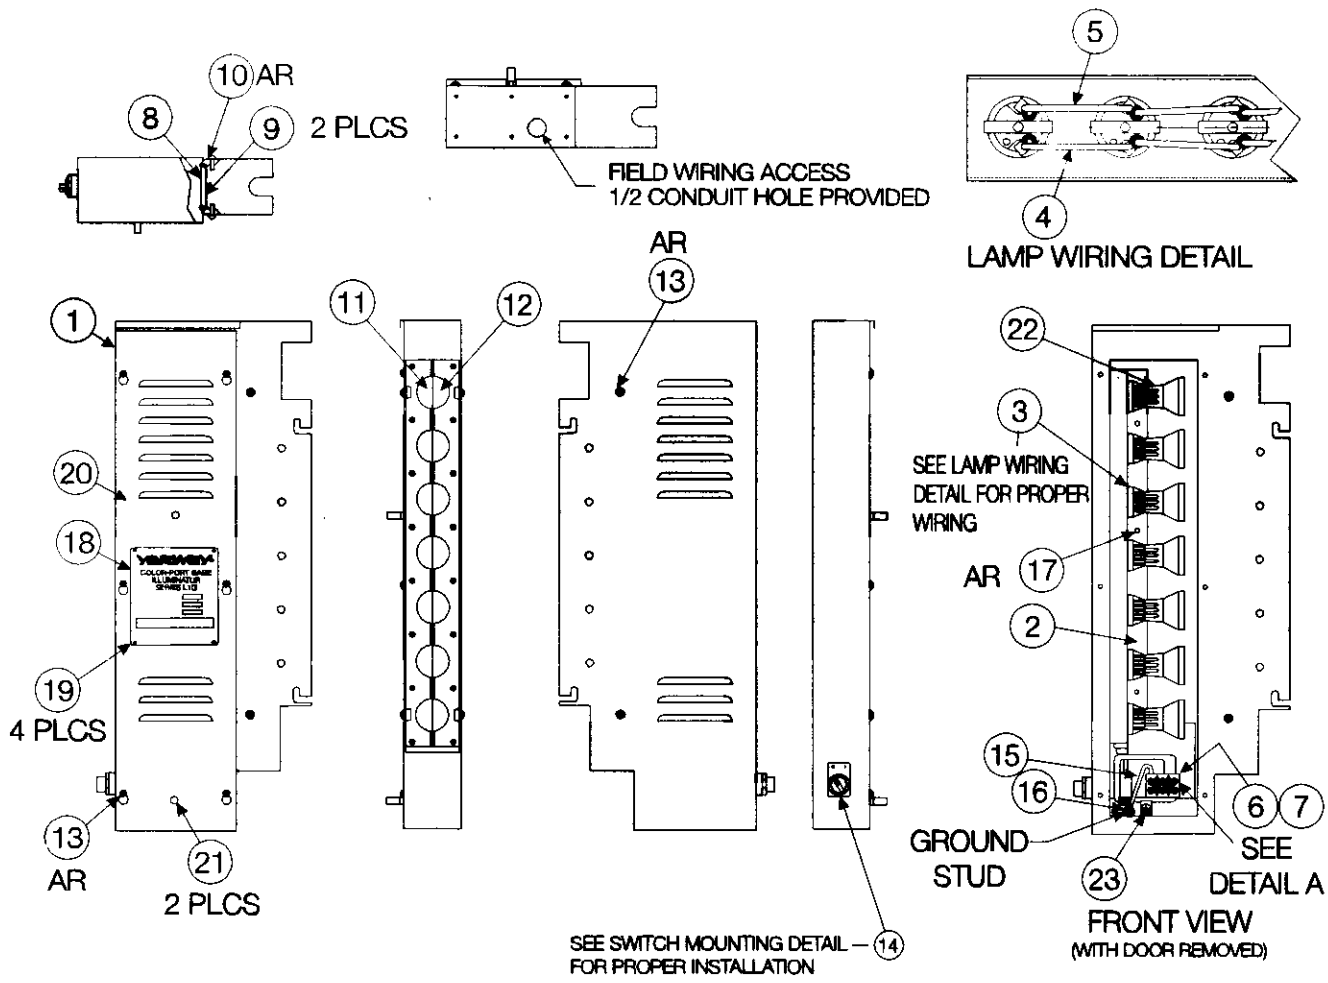

Figure 1—Series L10i Illuminator
This contains the light bulbs and colored glass. See Figure 1 for illuminator assembly drawing.
1. The only recommended spare part is light bulb (Figure 1, Item 22). Ensure that lamps for the proper operating voltage are specified.